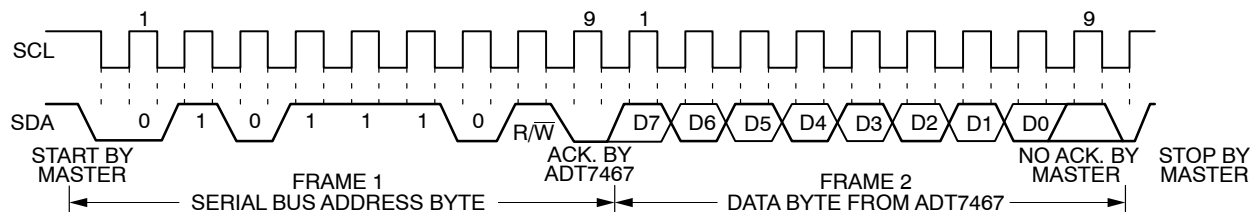

Figure 17. Reading Data from a Previously Selected Register
consisting of the serial bus address and the $R/\overline{W}$ bit set to 1, followed by the data byte read from the data register. This is shown in Figure 17.
2. If the address pointer register is known to be at the desired address, data can be read from the corresponding data register without first writing to the address pointer register, as shown in Figure 17.